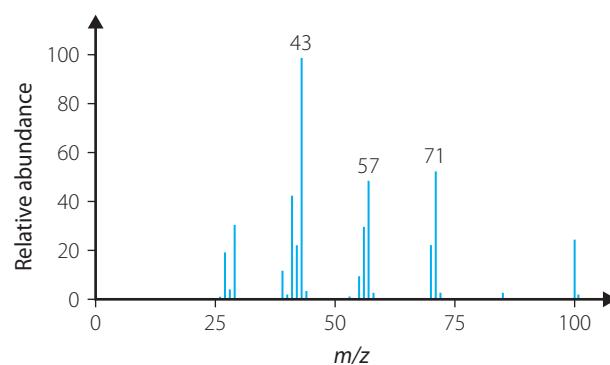

FIGURE 15.9 Mass spectrum for C_7H_{16}
- 8 Figure 15.9 shows the mass spectrum for C_7H_{16} . Account for the main peaks in the spectrum.